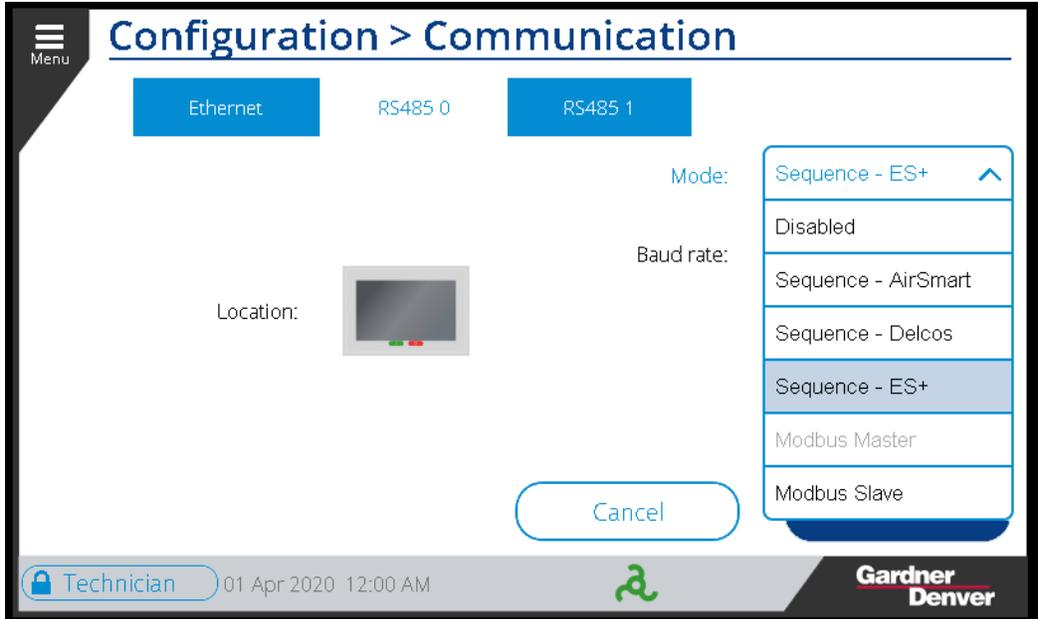

Figure 93: RS485 0 Mode
**Communication Mode** can be selected between *Disabled*, *Sequence – AirSmart*, *Sequence – Delcos*, *Sequence – ES+*, *Modbus Master*, and *Modbus Slave* from drop down menu. Figure 93 below shows the mode selection drop-down menu options.
Figure 100 outlines the **Sequencing** settings home screen for the *ES+* protocol. This screen will list different settings depending on the sequencing protocol that was selected on the communications screen, refer to Figure 93 above for the different sequencing types available.